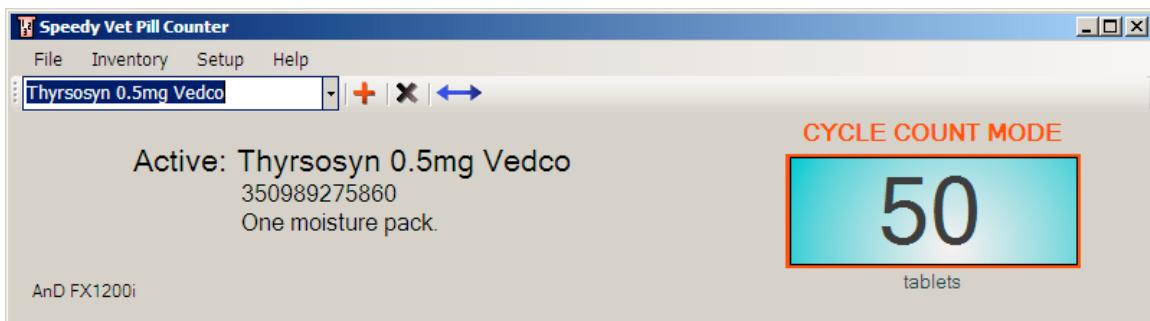

Figure 7: Enters Cycle Count Mode after Adding Item. Equals 50 capsules.
Step 7: After adding the inventory item, the main window will automatically enter into Cycle Count Mode (see Figure 7) with the item that was just added as the active item. This provides a